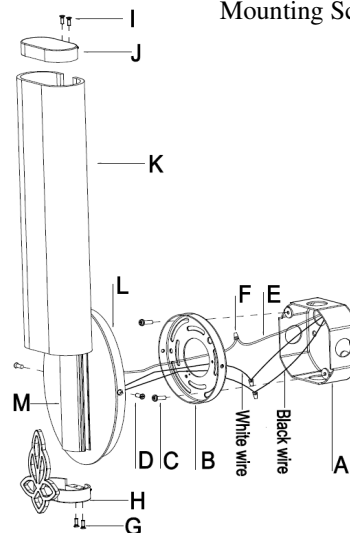

Fig.2
### CONNECTING THE WIRES (FIG. 2)
3. At this point, connect the electrical wires as shown in Fig. 2, making sure that all wire connectors (F) are secured. If your outlet has a ground wire (E) (green or bare copper), connect the fixtures ground wire to it. Otherwise, connect the fixture ground wire directly to the mounting plate (B) using the green screw provided. After wires are connected, tuck them carefully inside the junction box.
4. Align the fixture's back plate (L) over the mounting back plate (B) and secure with screws (D).